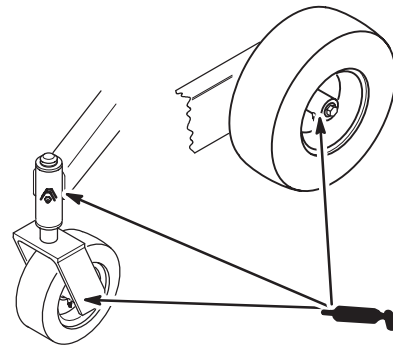

Figure 32
1. Lubricate the front and back wheel bearings and front spindles until grease begins to ooze out of the bearings (Fig. 32).
2. Remove rear wheel grease cap. Lubricate the rear wheel bearing (Fig. 32).
1. Lubricate the transmission couplers located in the back of the machine (Fig. 32).